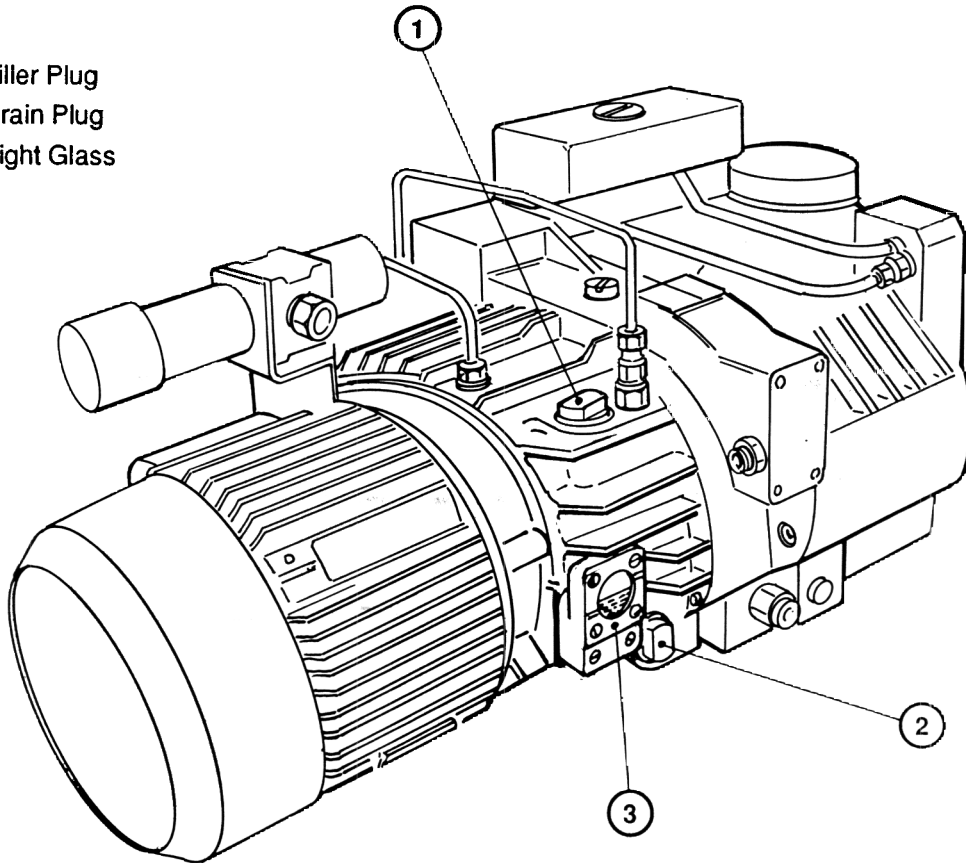

Figure 10 - Oil Filler Plug and Sight Glass Location
2. Unscrew the oil filler plug (see Figure 10).